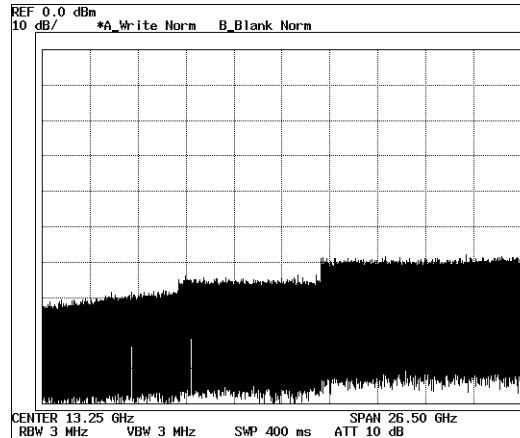

Figure 1-3 Start-up Screen
The analyzer performs the Initial test (processing time: approximately 10 seconds). The start-up screen is displayed as shown in Figure 1-3.
1. *There is a possibility that the screen display is different from the one shown in Figure 1-3, depending on previously saved conditions.*
The start-up screen is displayed as shown in Figure 1-3.